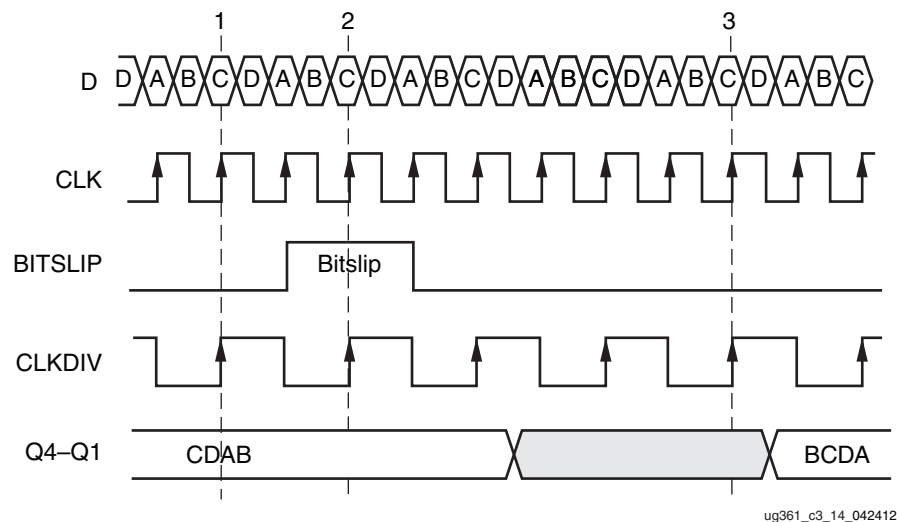

Figure 3-16: Bitslip Timing Diagram
When the ISERDES interface type is MEMORY, the latency through the OCLK stage is one CLKDIV cycle. However, the total latency through the ISERDES depends on the phase relationship between the CLK and the OCLK clock inputs. When the ISERDES interface type is NETWORKING, the latency is two CLKDIV cycles. See Figure 3-16, page 150 and Figure 3-17, page 151 for a visualization of latency in networking mode. The extra CLKDIV cycle of latency in networking mode (compared to memory mode) is due to the Bitflip submodule.
This section discusses the timing models associated with the Bitslip controller in a 1:4 DDR configuration. Data (D) is a repeating, 4-bit training pattern ABCD. ABCD could appear at the parallel outputs Q1–Q4 of the ISERDES in four possible ways: ABCD, BCDA, CDAB, and DABC. Only one of these four alignments of the parallel word makes sense to the user's downstream logic that reads the data from the Q1–Q4 outputs of the ISERDES. In this case, ABCD is assumed to be the word alignment that makes sense. Asserting Bitslip allows the user to see all possible configurations of ABCD and then choose the expected alignment (ABCD). Figure 3-16 shows the timing of two Bitslip operations and the corresponding re-alignments of the ISERDES parallel outputs Q1–Q4.